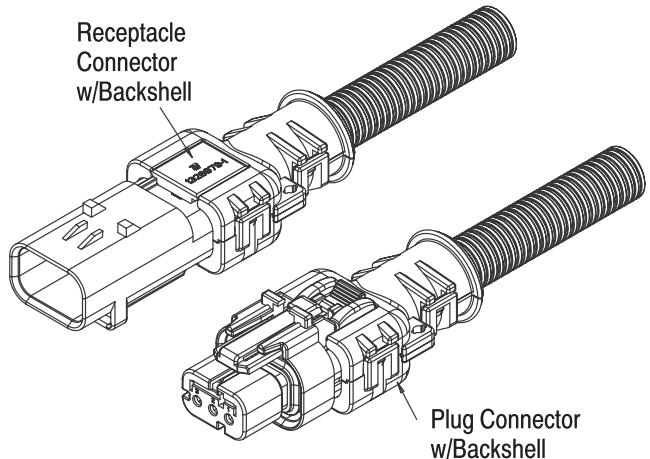

Figure 5
8. The completed AMPSEAL 16 Backshell with connectors is shown in Figure 5.